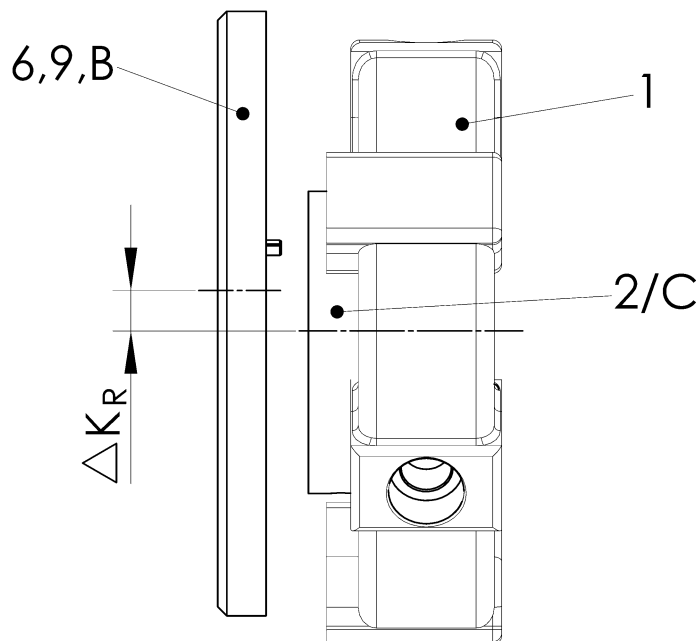

Fig. 5-2 Radial alignment
- Determine the radial misalignment (see Fig. 5-2).